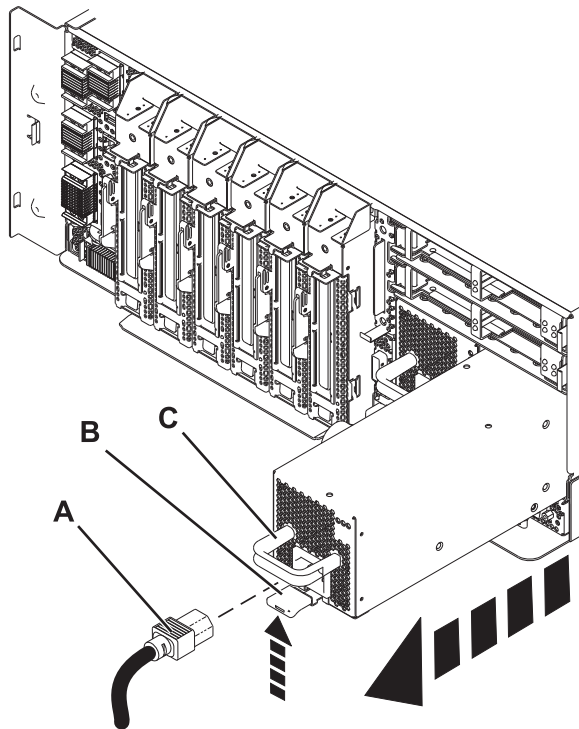

Figure 1. Removing the power supply
6. Lift the tab (B) toward the power cord retainer (C) to release the power supply. Pull the power supply away from the system, as shown in Figure 1.